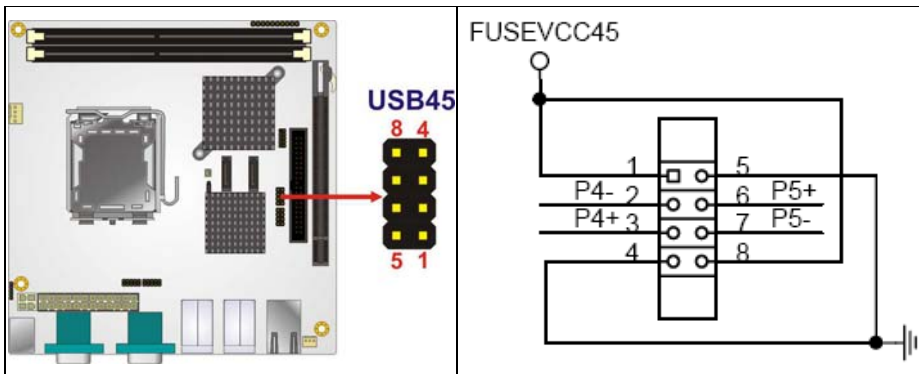

Figure 4-14: Internal USB Connector Location
- CN Location:** See Figure 4-14